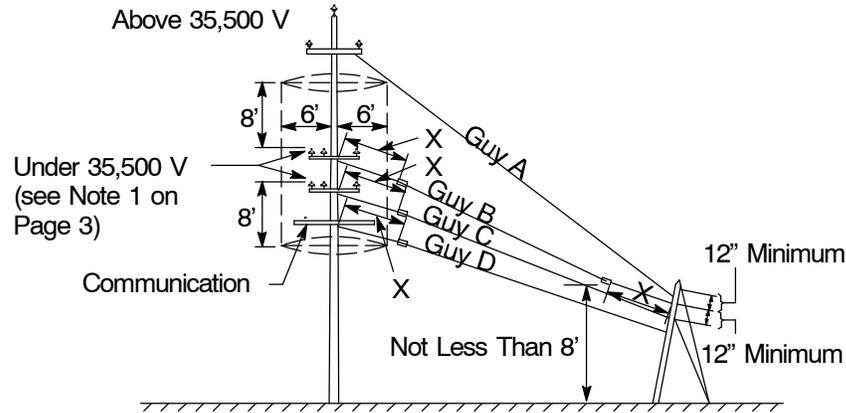
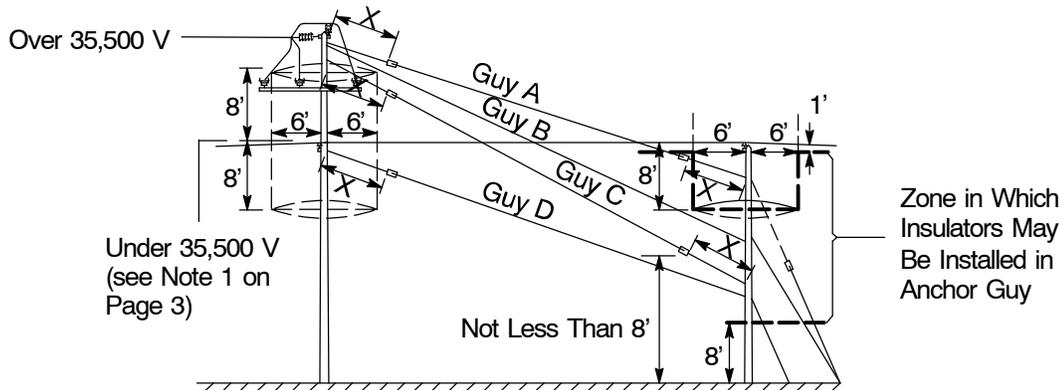

Figure 7
Figure 8
2. Dimension "X" in Figure 7 and Figure 8 on Page 5 shall not be less than 6 feet or more than 9 feet, measured along the guys, from the point of attachment to the pole, arm, or structure.